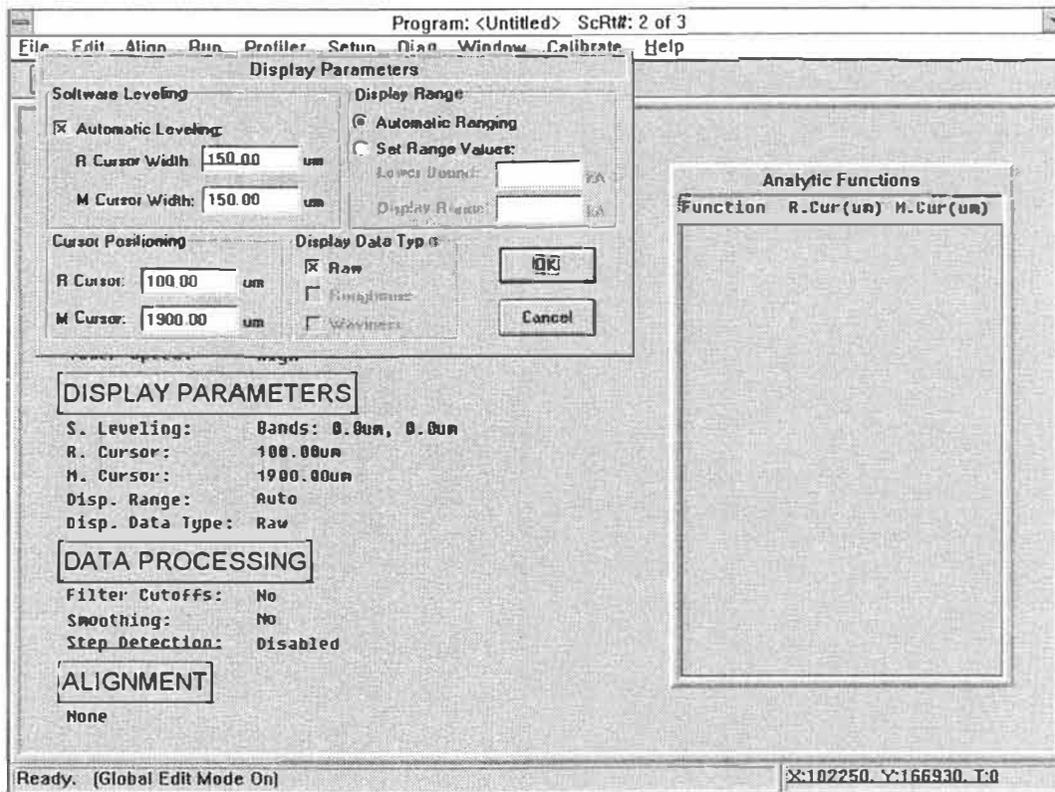

Figure 5-3. Global Edit Mode
1. Click-on "Window" and click-on "Scan Routines" from the Window Menu. The Scan Routines screen will be displayed. Click-on "Edit" and click-on "Global Edit Mode" (Figure 5-3).
2. Click-on the "Display Parameters" window. The Display parameters options will be displayed. Click on the "Automatic Leveling" checkbox. Enter 150 into each band width box (Figure 5-3). Click on "OK" to close.